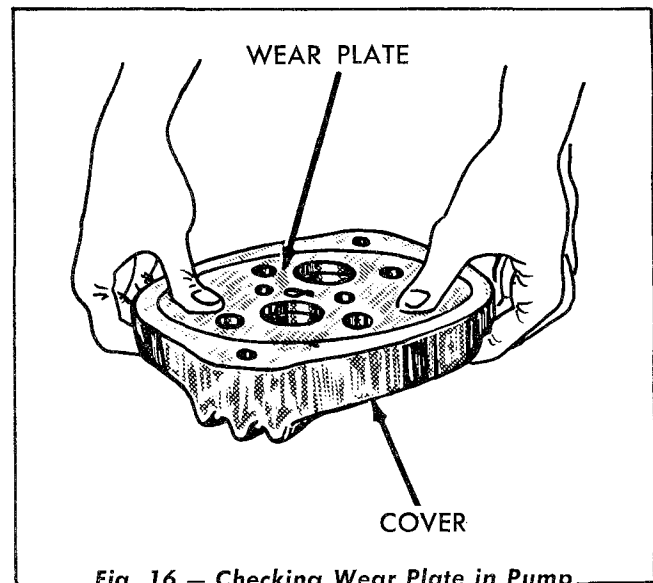

Fig. 16 — Checking Wear Plate in Pump Cover for Proper Seating
2. Check the seating of the wear plates for proper fit in the adapter cover and end cover. A rocking motion of the wear plates indicates a burr on the machined surface of the adapter or cover and/or a bent wear plate (refer to Fig. 16).